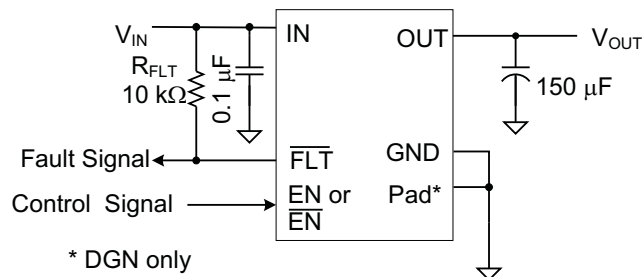

Figure 1. Typical Application
(1) Absolute maximum ratings apply over recommended junction temperature range.
(2) Voltages are with respect to GND unless otherwise noted.
(3) See the Input and Output Capacitance section.
(4) VOUT was surged on a pcb with input and output bypassing per Figure 1 (except input capacitor was 22 μF) with no device failures.